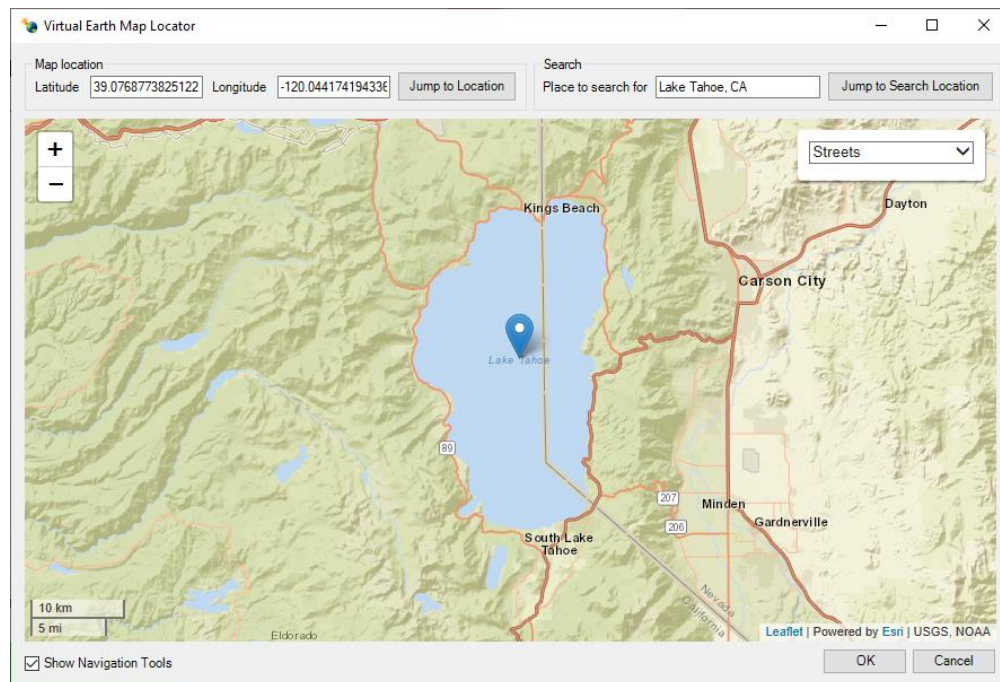

Figure 13 Virtual Earth Map Locator dialog
- Use the zoom and pan tools in the *Virtual Earth Map Locator* dialog so that Lake Tahoe is located in the center as shown in Figure 13.